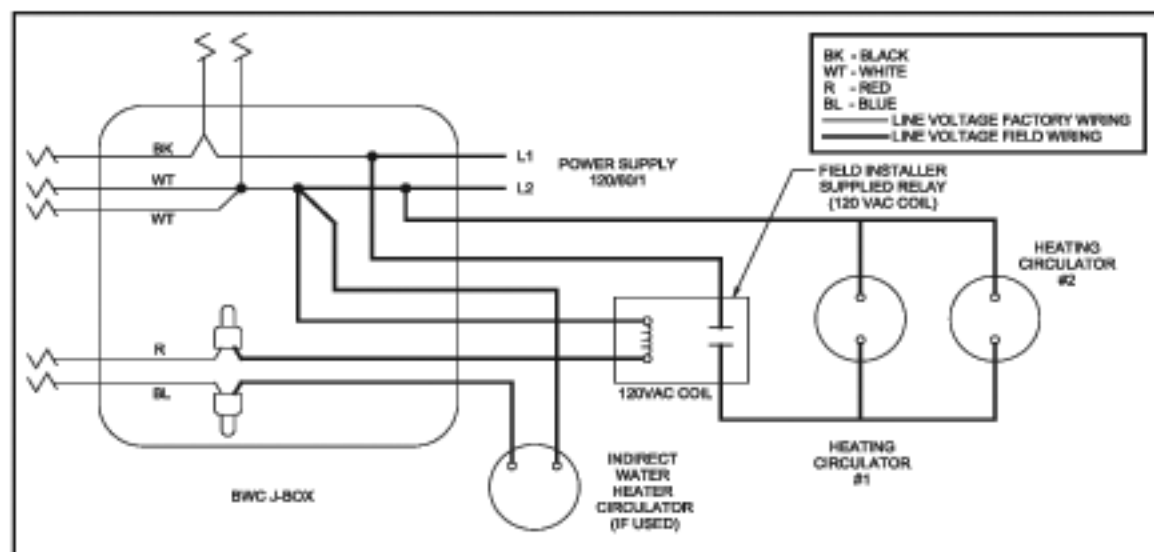

Figure 10.3: Wiring of Isolation Relay for Control of Two Heating Circulators
NOTE: 1) Use isolation relay between Taco 0013 and BWC - see Figure 10.3
- 2) Maximum circulator continuous current draw is 2A. When Piping Method #1 is used, it may be desirable to use the boiler to directly control the primary circulator in addition to the secondary circulator. If this is done, control both heating circulators using a relay with a 120VAC coil, such as a Honeywell R4222, as shown in Figure 10.3. Select a relay with a contact rating in excess of the combined draw of the two circulators.